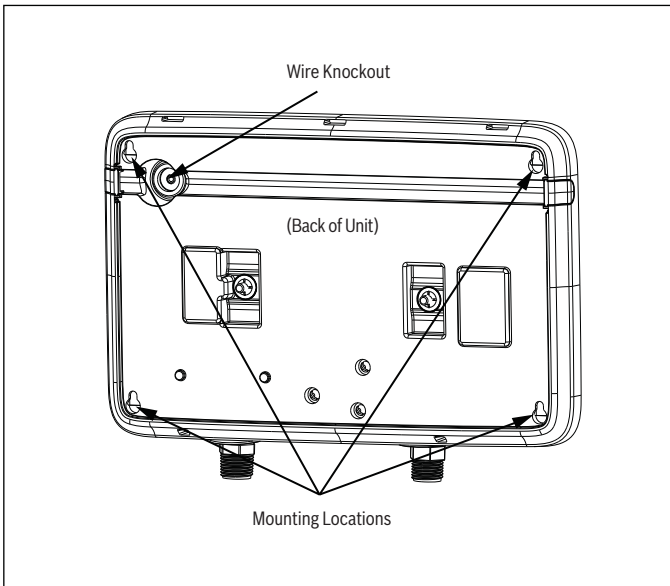

Figure 7
5. Pass electrical supply wires through the round wire knockout in the back of the unit. (Figure 7).